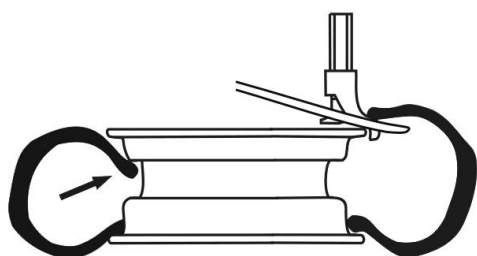

Fig. 23
- Press lever as Fig. 22-2 and press wheel as fig. 22-1, until upper edge of wheel as Fig. 23, press lever slowly, until upper edge of wheel hang on the mounting head.